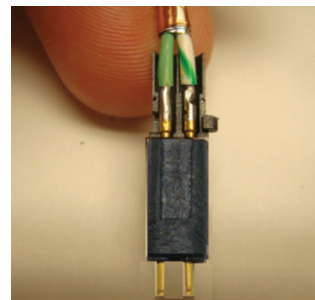

Figure 60: Attaching rear insulator
20. One pair at a time, place the black rear insulator on the back of the contacts (Figure 60).